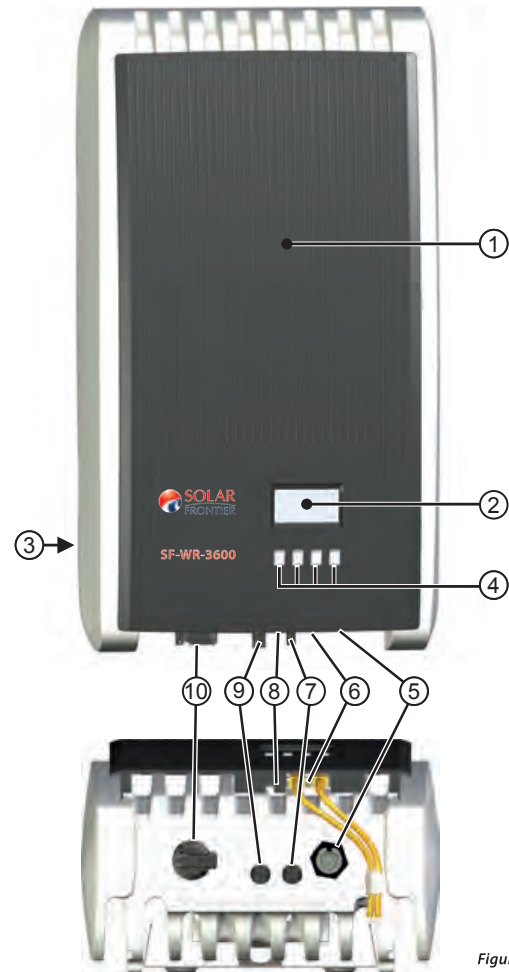

Figure 45
The operating buttons (④ in Figure 45) have the following functions:
For information shown in the display (② in Figure 45) the following generally applies: